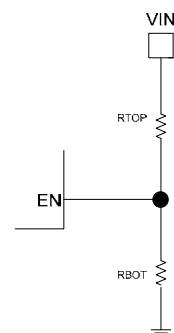

Figure 1. EN Divider Network
- 3) The AP6508 can be enabled by Vin through a voltage divider as shown in the figure 1 below.